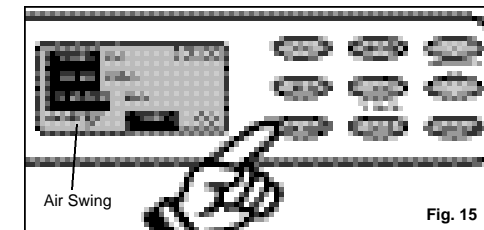

Fig. 15
- 6) Press the **SWING** key to activate the automatic air swing (oscillating) feature (the "air swing" symbol will appear in the **LCD** window). *Fig. 15*. To deactivate the air swing feature, press the **SWING** key again.